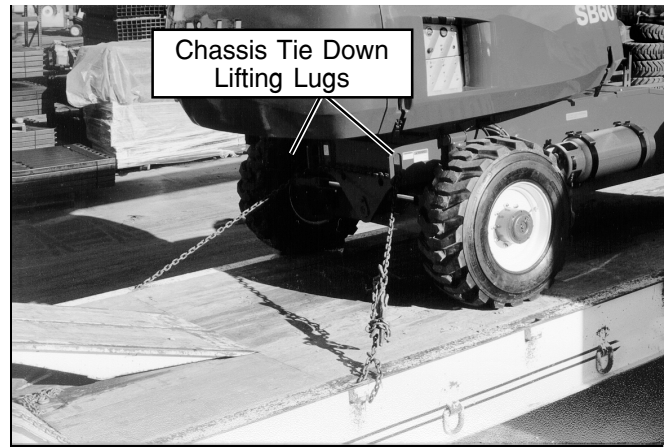

Figure 8: Front chassis tie down lifting lugs.
6. Secure the machine to the transport vehicle using chains / straps of adequate load capacity (refer to specifications, back page) attached to chassis tie down lugs. (See Figures 8 and 10).